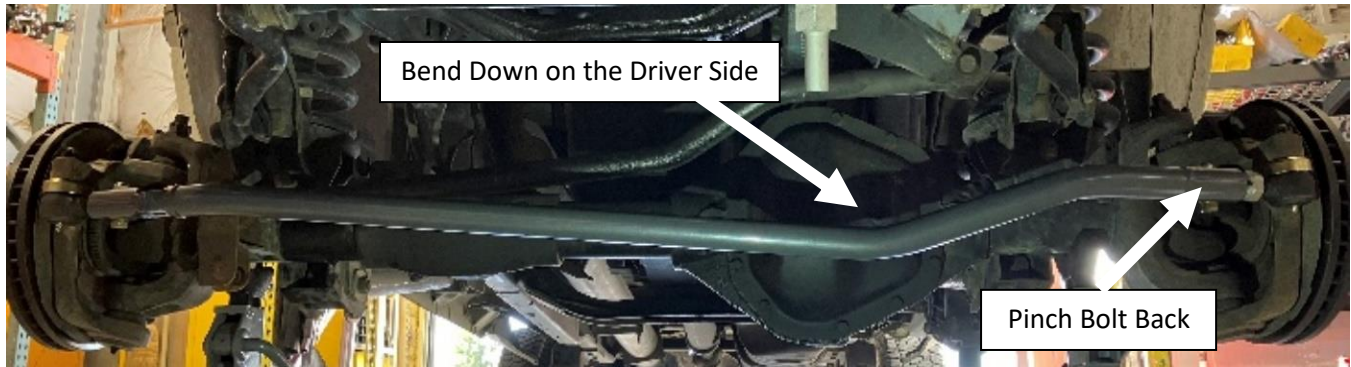

Figure 11. Tie Rod Shown with Pinch Bolts Back and Bend Down.
16. Install the tie rod. Position the bar so that the bent part of the tie rod points downward on the driver side of the truck, allowing clearance for the pitman arm at full compression. The double adjuster should be on the driver side, the pinch bolts on the back of the tie rod. See **Figure 11**.